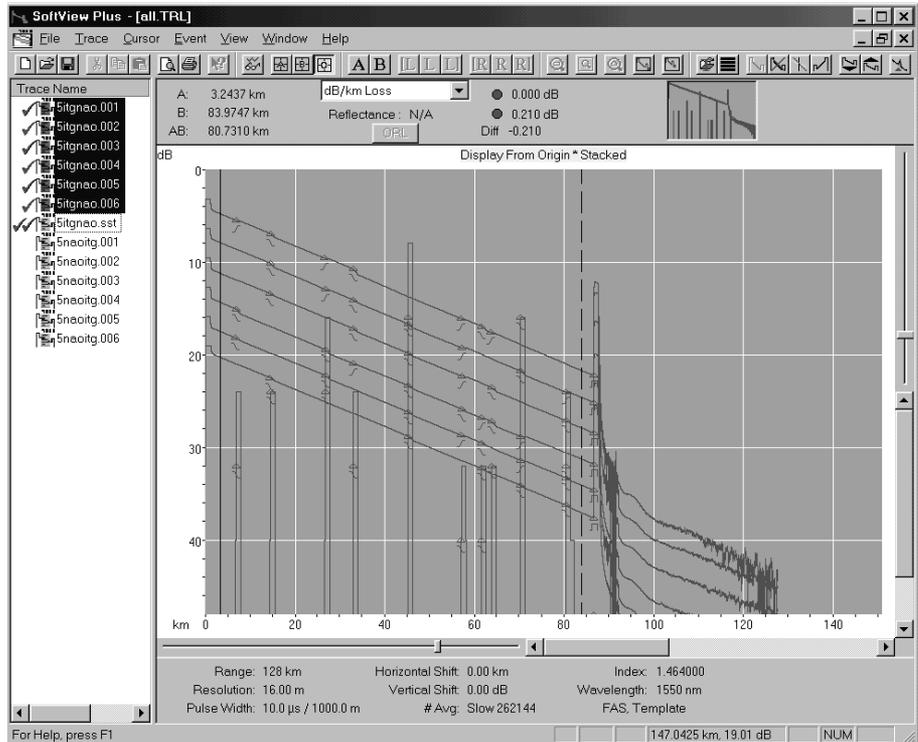

Figure 11-3: Smart Splice Template Trace
9. Click **OK** to create the smart template trace, as shown in Figure 11-3. The printed report is shown in Appendix C.